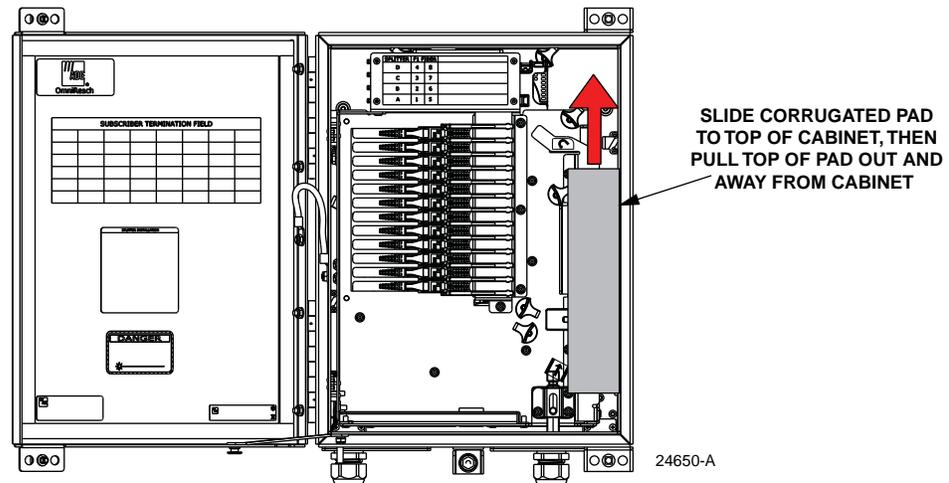

Figure 5. Removing Corrugated Pad
3. For shipping purposes, a corrugated pad is placed between the swing frame and the right interior side of the cabinet. Remove the pad by first sliding it towards the top of the cabinet as shown in Figure 5; then pull on the top end of the pad to separate it from the cabinet.